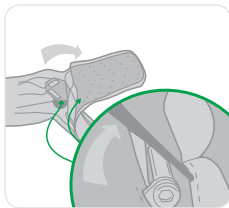

Figure 9
- Unzip the back panel of the backpack and inspect the harness connector for signs of damage, distortion, corrosion or cracking. Ensure that the fastening bolt is secure (Figure 9). If damage is apparent or the bolt insecure the Latchways PRD shall be removed from service and advice sought from Latchways or authorised agent.